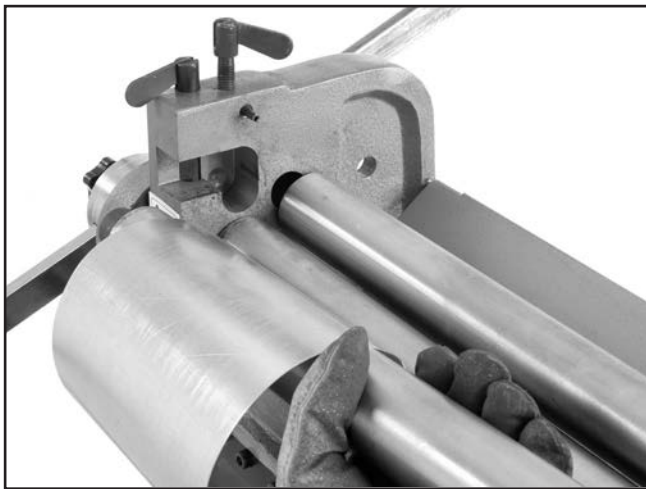

Figure 48. Upper roller removal.
1. With the help of an assistant, carefully remove the upper roller (**Figure 48**) without causing any dents in the roller surface.